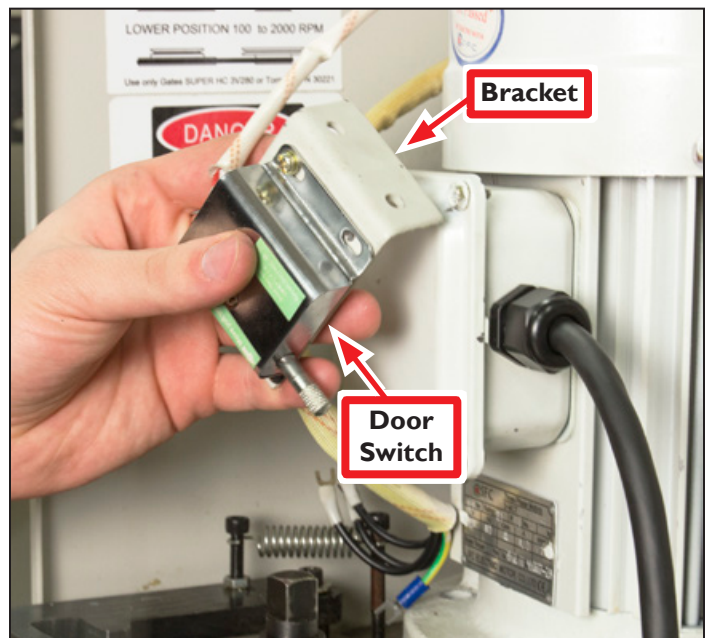

Figure 15
2. Separate the Door Switch from the Bracket with a #2 Phillips screwdriver (see **Figure 15**). Then, discard the old bracket and its fasteners.